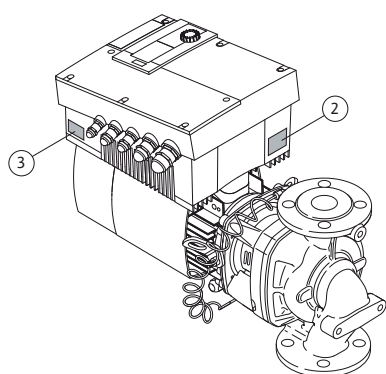

Fig. 11: Arrangement of the name plates:
- The drive name plate is at the inverter on the side with the cable lead-throughs (Fig. 11, Item 3). The electrical connection is to be made in accordance with the specifications on the drive name plate.